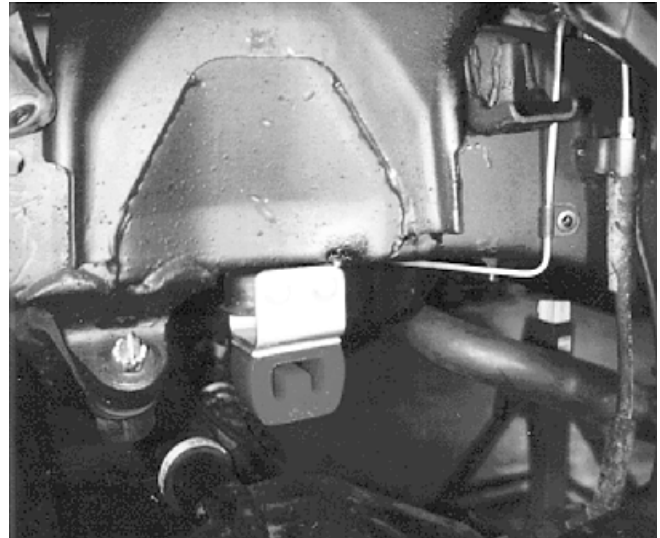

fig. 8
21. Assemble the # 1417 urethane bumpstop and the # 140168 bumpstop bracket using the 5/16" washers and Nyloc nuts from bag #860041. **Refer to fig. 8 for correct assembly.**
22. Place the bumpstop assembly over the bumpstop pocket and pass two 3/8" x 3" bolts, from bag #860041, through the bumpstop assembly and drilled out pocket. Next, install the 3/8" washers and 3/8" Nyloc nuts from bag # 860041 and torque to 35 ft.-lbs. **Refer to fig. 8**